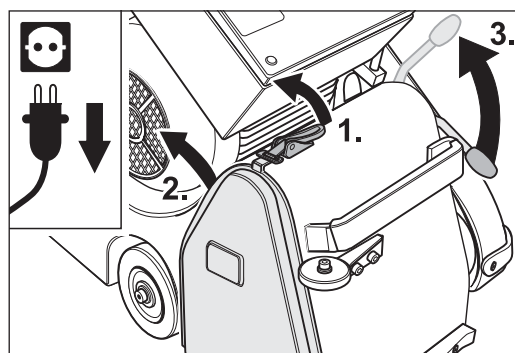

Fig. 58 Release the cover lock (1.), remove the side cover (2.) and lower the tensioning roller by pulling up the operating lever (3.).
- 3 Release the cover lock (Fig. 58, 1.) and remove the side cover on the right of the machine housing (Fig. 58, 2.).
- 4 Pull the operating lever of the drive unit upwards (Fig. 58, 3.). This will lower the tensioning roller.